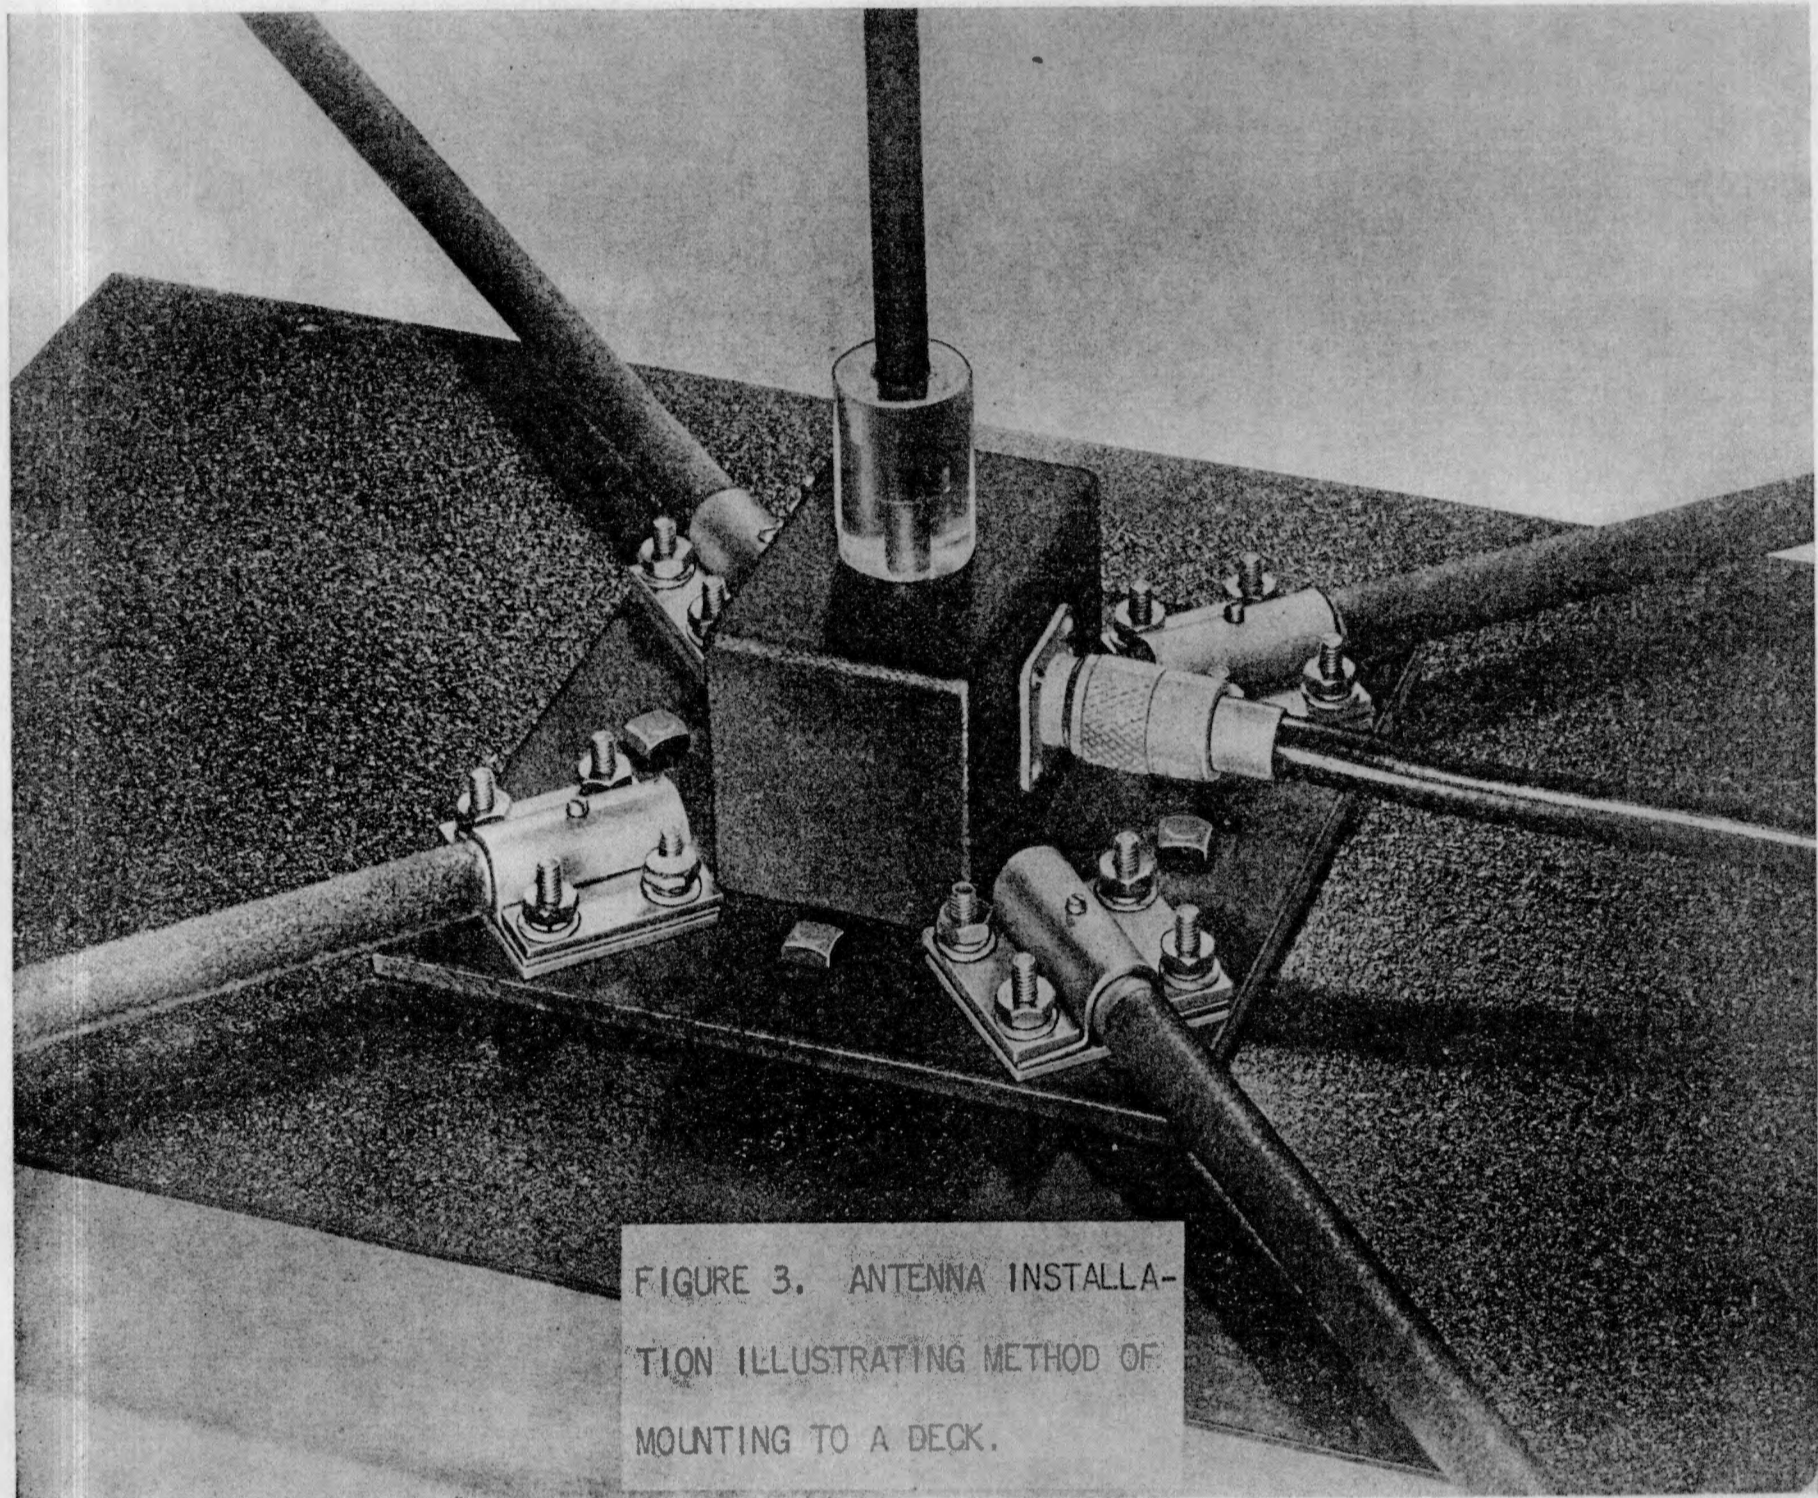

FIGURE 3. ANTENNA INSTALLATION ILLUSTRATING METHOD OF MOUNTING TO A DECK.
- Figure 3. Antenna installation illustrating method of mounting to a Deck.